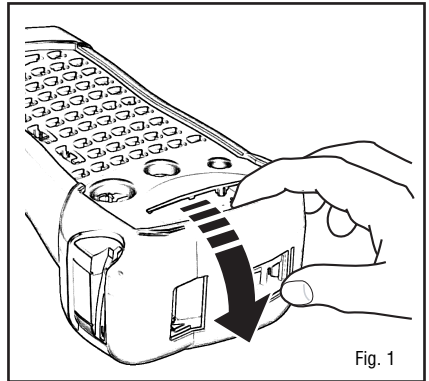

Fig. 1
- Remove protective bumper (Fig. 1).